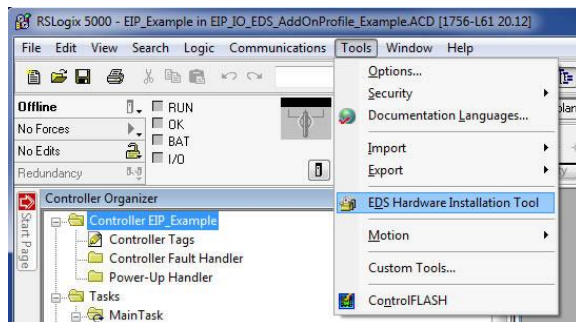

Figure 17: EDS Hardware Installation Tool Menu
- 1) Register the interface card's EDS file. In the menu bar, navigate to Tools...EDS Hardware Installation Tool. Refer to Figure 17.